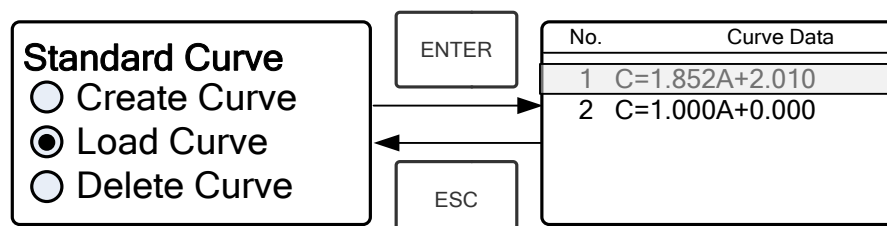

Fig. 4-15
- ★ Move the cursor on "Load Curve" and press  to confirm. Then the system will go into the curve equation record interface. (Fig. 4-15)